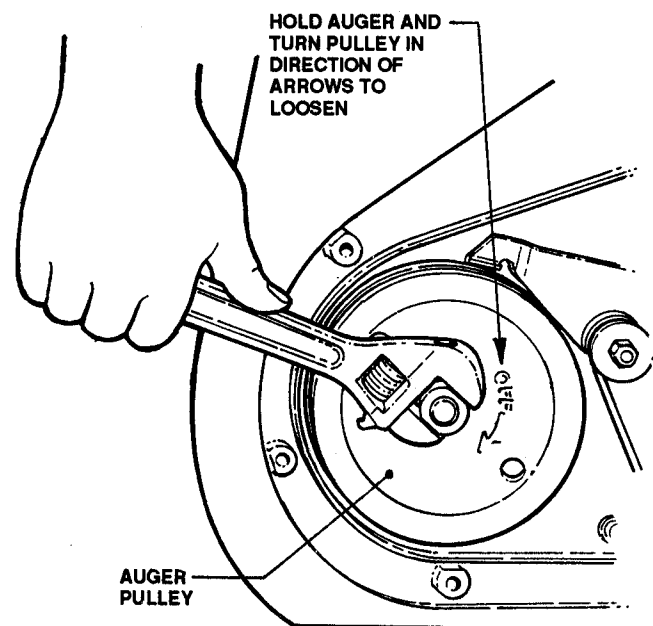

FIGURE 7.9
- (4) Hold Auger and use an adjustable wrench to remove Auger Pulley. See Figure 7.9.